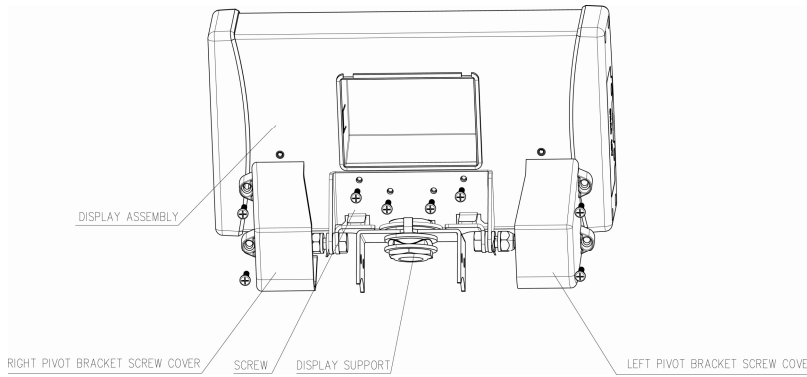

Figure 5
13. Rotate the display support so that it is perpendicular to the handrail (see Figure 5). Then position the display assembly close to the display support. Plug the load cell cable connector into the load cell port on the rear of the display assembly. The port is labeled "LOAD CELL".